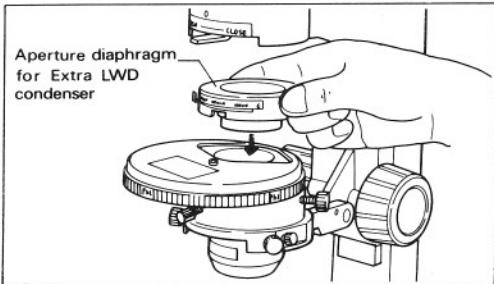

Fig. 35
An optional aperture diaphragm for extra LWD condenser can be attached in place of the annular diaphragm (PhL). (Fig. 35) In this case, condenser turret becomes unrotatable.
- For the extra LWD condenser, an aperture diaphragm is optionally available. (Refer to Fig. 35)